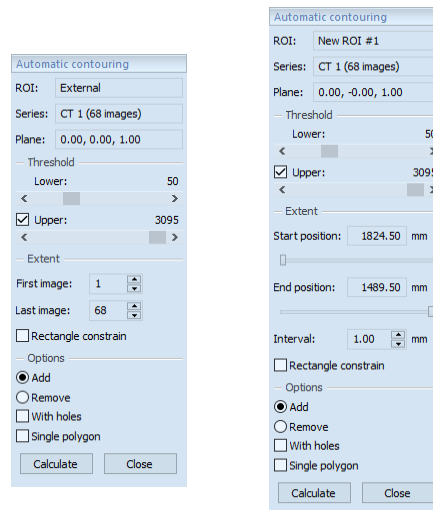

Figure 265 – Automatic contouring tool for original images (a), for reconstructed images (b)
3. The **Automatic contouring** tool is then automatically displayed as a new tab in the tools panel where you can define the parameters for automatic contouring (see Figure 265).